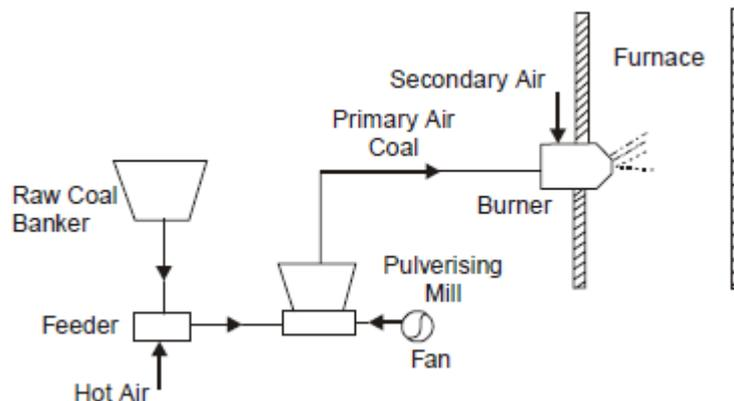

Fig 17.1 Unit System or Direct System
- ❖ In this system (Fig17.1) the raw coal from the coal bunker drops on to the feeder. Hot air is passed through coal in the feeder to dry the coal.